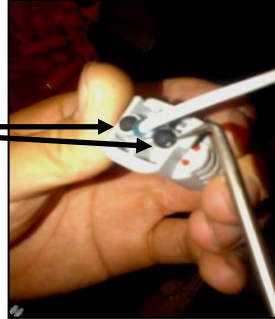

Figure 2
5. Remove 2 small black plugs in alternator connector. (Figure 2)